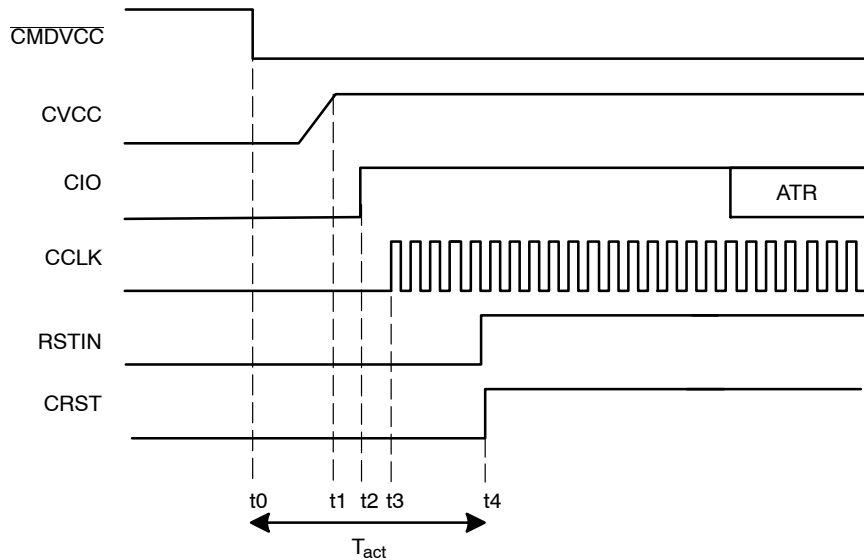

Figure 6. Activation Sequence – Normal Mode
If a card is detected present (\overline{PRES} or PRES active) the controller can start a card session by pulling \overline{CMDVCC} Low. Card activation is run (t₀, Figure 6). This Power-Up Sequence makes sure all the card related signals are LOW during the CVCC positive going slope. These lines are validated when CVCC is stable and above the minimum voltage specified. When the CVCC voltage reaches the programmed value (1.8 V, 3.0 V or 5.0 V), the circuit activates the card signals according to the following sequence (Figure 6):
- If controlling the clock with RSTIN is not necessary (**Normal Mode**), then $\overline{\text{CMDVCC}}$ can be set LOW with RSTIN LOW. In that case, CLK will start minimum 500 ns after the transition on I/O (Figure 6), and to obtain an ATR, CRST can be set High by RSTIN also about 500 ns after the clock channel activation (T_{act}).